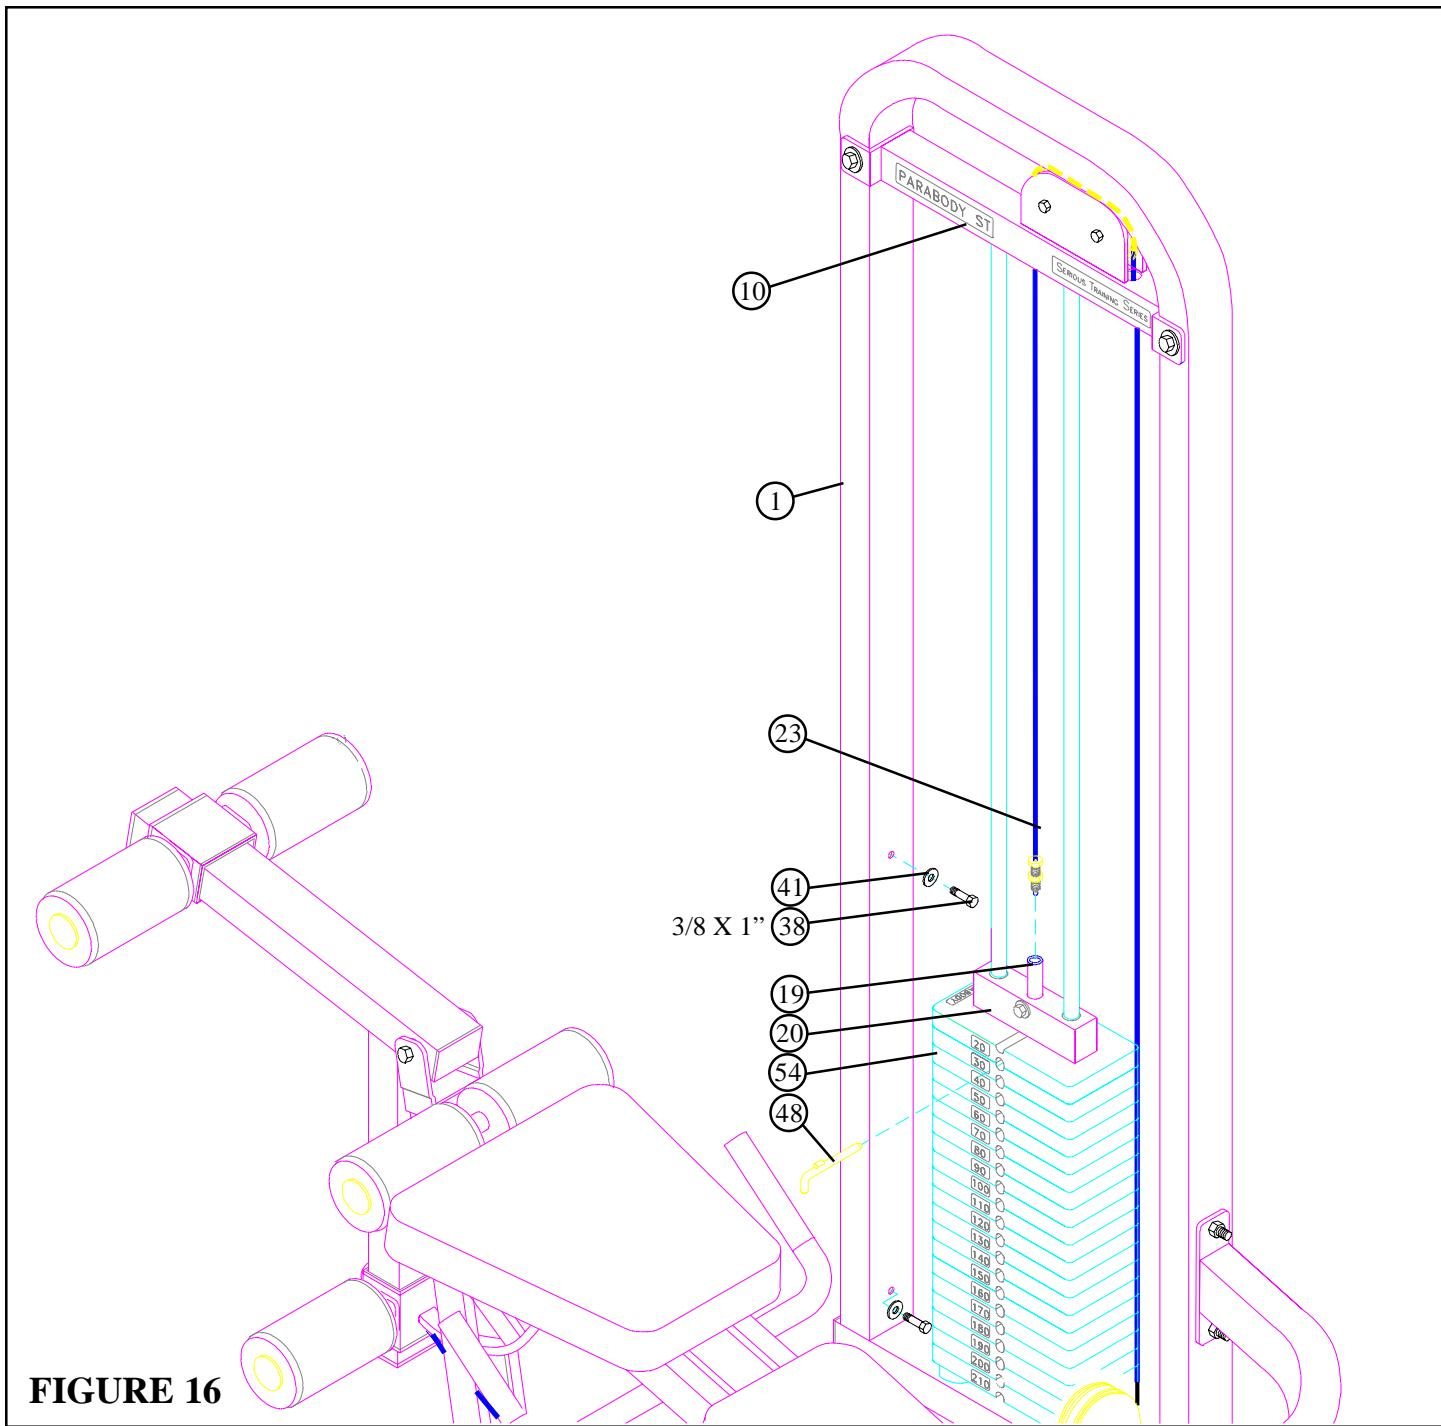

FIGURE 16
- Loop the threaded end of the CABLE (23) through the holes and around the pulleys in the TOWER BRACE (10) as shown in FIGURE 16.
- Screw the treaded end of the CABLE (23) approximately 3/4" into the end of the WEIGHT STACK SHAFT (19) and tighten jam nut securely. See FIGURE 16.
- If the HEAD PLATE (20) does not sit on top of the first WEIGHT PLATE (54), push the head plate down, insert the SELECTOR PIN (48) and perform several repetitions on the machine. This will relax the cable system and prevent the HEAD PLATE (20) from lifting up.
- If after completing the previous step the HEAD PLATE (20) still does not sit on top of the first WEIGHT PLATE (54) or if there is excess slack in the cable system, adjust the threaded end of the CABLE accordingly and retighten the jam nut.
- Thread two 3/8 X 1" BOLTS (38) and two 3/8" WASHERS (41) one-quarter of the way in to the threaded holes on the TOWER (1) as shown in FIGURE 16.